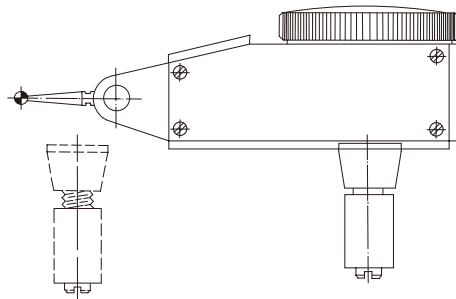

Fig.2A
- Loosen the tightening part of the dovetail clamp and insert the dovetail used for the dial test indicator into the dovetail groove of the dovetail clamp according to (Fig. 2A) and position it to the right position.